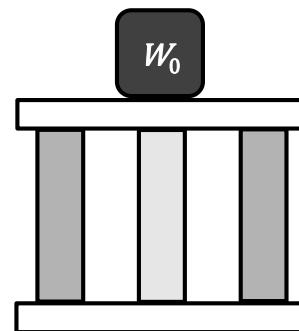

Fig. 2
- (1) At temperature  $T_0$ , an object of weight  $W_0$  is placed on the center of the upper rigid plate, as shown in Fig. 2. Find the strain in the columns. Also, find the stress acting on each column.
- (2) After the object of weight  $W_0$  is removed from the state in the question (1), the temperature is increased by  $\Delta T$  from  $T_0$ . Find the strain in the columns. Also, find the stress acting on each column.
- (3) The object of weight  $W_0$  is placed on the center of the upper rigid plate as in the question (1), and the temperature is increased by  $\Delta T$  from  $T_0$ . Find the stress acting on each column.